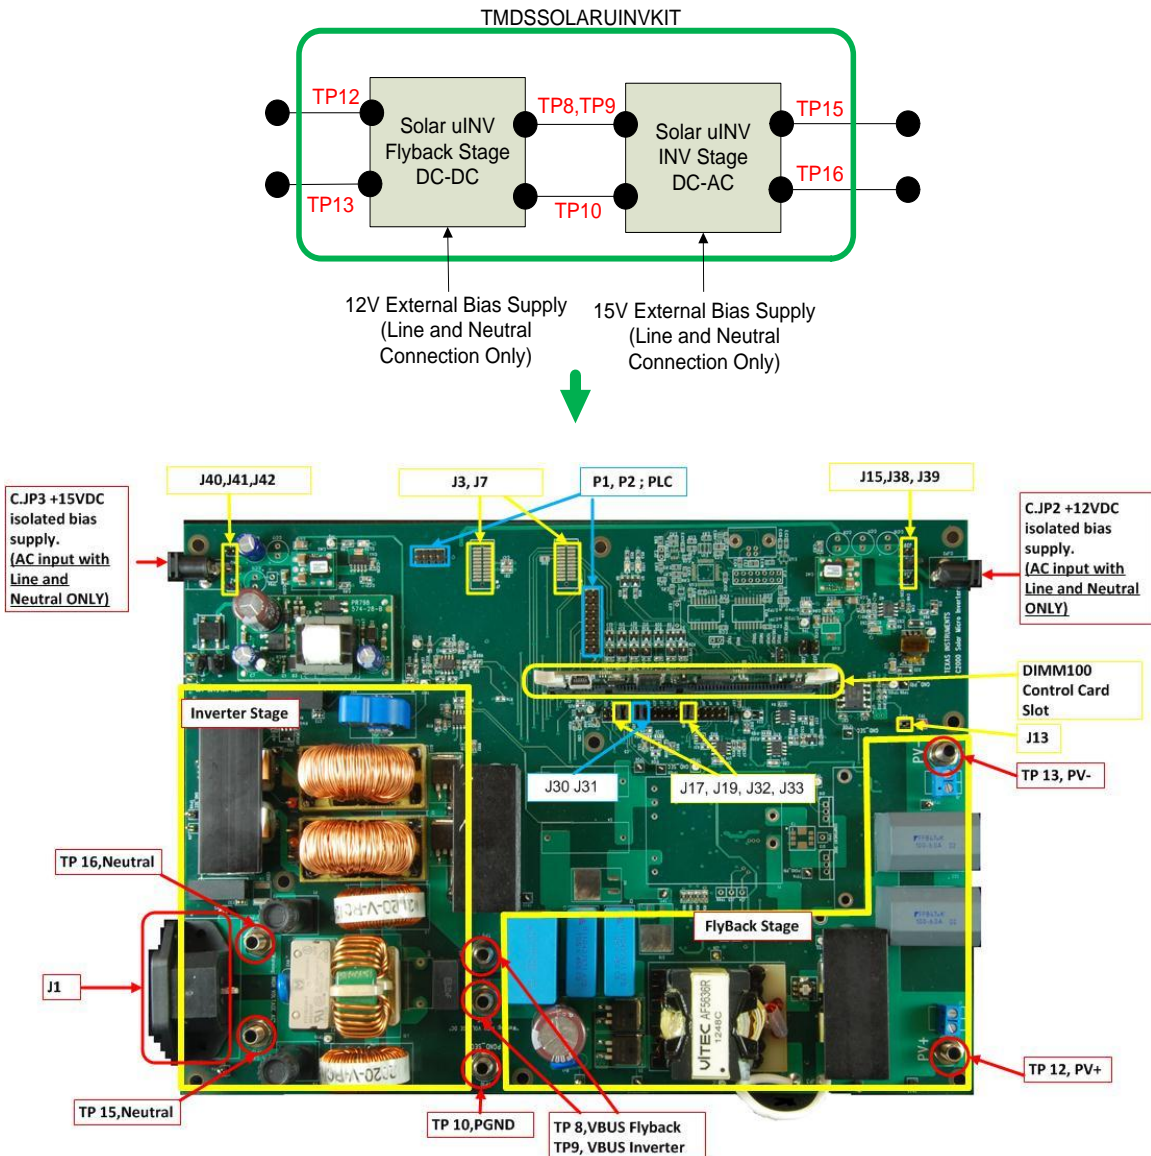

Figure 24 Jumper & Connector locations on C2000 Solar Micro inverter
1. **Inspect/Install jumpers:** Before applying any power, ensure that these jumpers are configured properly. Table 1 lists the jumper configuration needed to run the GUI for the Micro Inverter EVM. Figure 24 shows some of the jumper locations on the PCB.